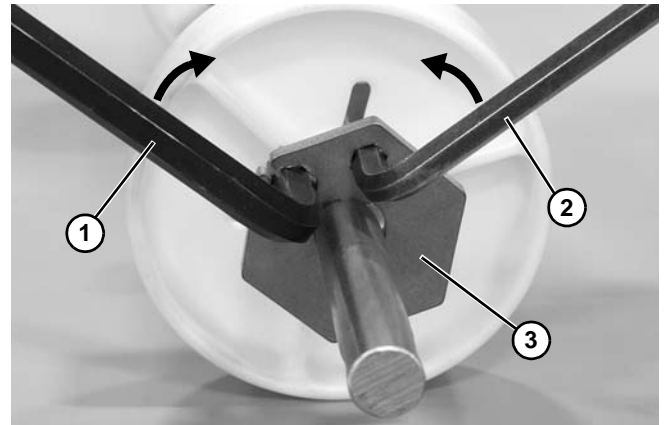

Figure 86
3. Insert an 8 mm (Figure 86, item 1) and 6 mm (Figure 86, item 2) hex wrench into the retainer plate.
4. Move wrenches toward each other to unlock the retainer plate (Figure 86, item 3) and remove from the shaft.